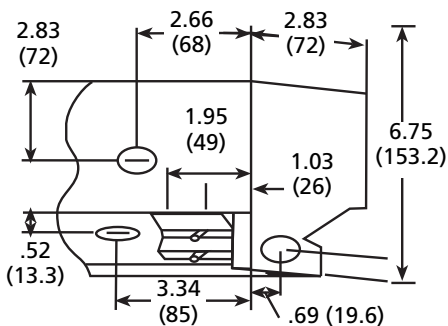

Figure 4 – Wiring Compartment Dimensions – in. (mm)
NOTE: Make sure the caution label with the word "TOP" is at the top of the heater. For most efficient operation locate heaters along outside wall under windows. Position heater so it can be secured to wall stud. Power cable must enter heater through one of the knockouts provided in wiring compartment. See Figure 4.
5. Loosen screw in built-in cable clamp or remove desired knockout from heater wiring compartment (Figures 4 and 5). Install power cable into wiring compartment allowing at least 6" (152 mm) of cable for connection to heater. To install two power cables using the built-in cable clamp, bend tab covering second hole up and back to rear wall of wiring compartment. If built-in cable clamp is not used, install approved cable connector (not included) in desired knockout.